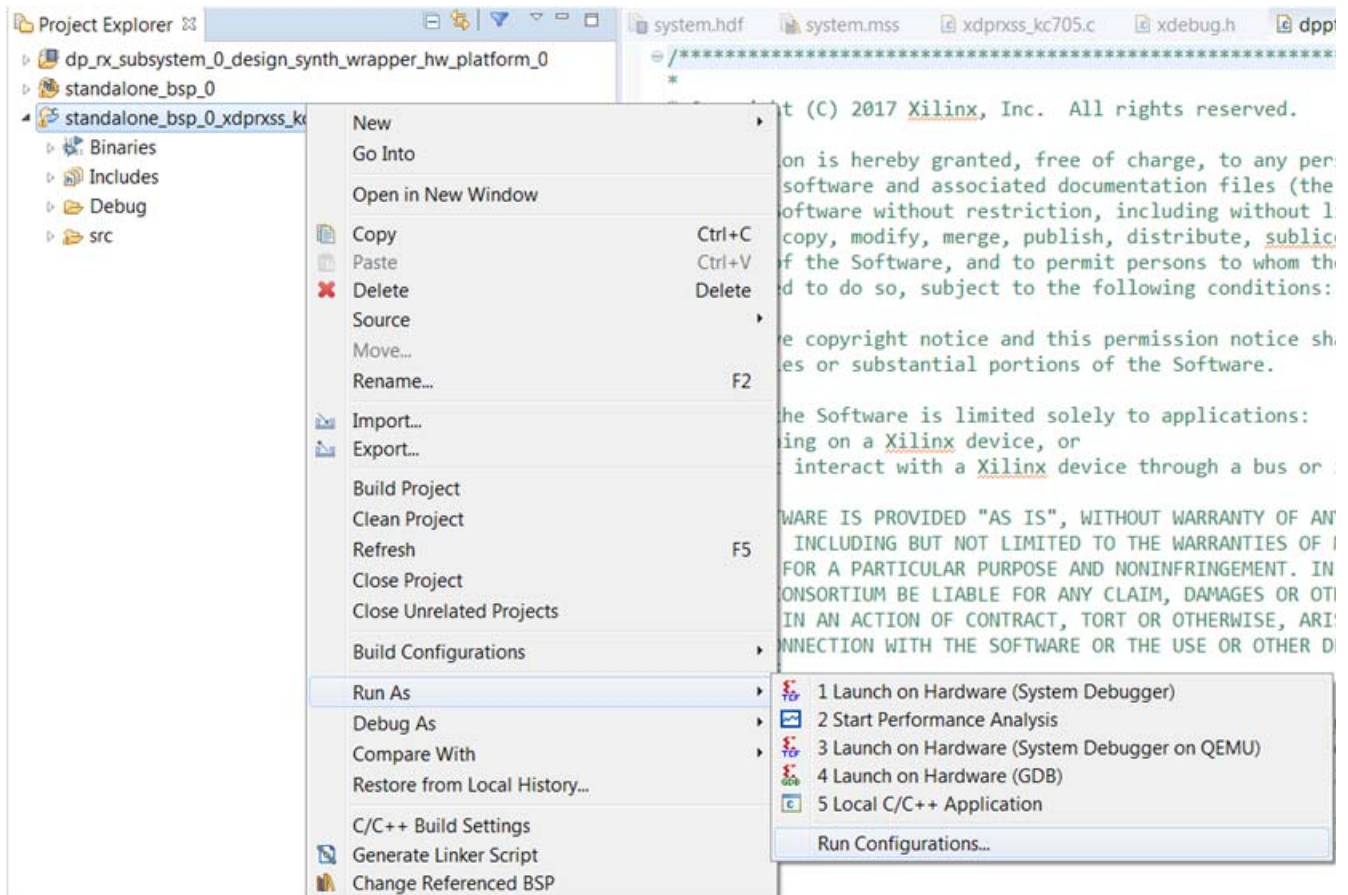

Figure 5-22: Project Explorer
9. In the Vivado SDK, under the **Project Explorer**, right-click the application and click **Run As > Run Configurations** (Figure 5-22).